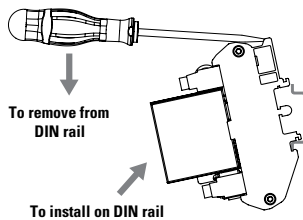

fig. 1 Mounting/Dismounting contactor on DIN rail
- Install the contactor on the DIN rail as shown in fig. 1. Vertical mounting operation is recommended.